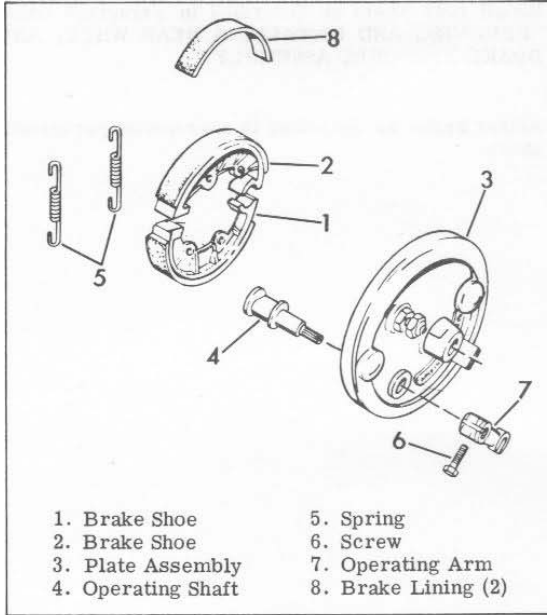
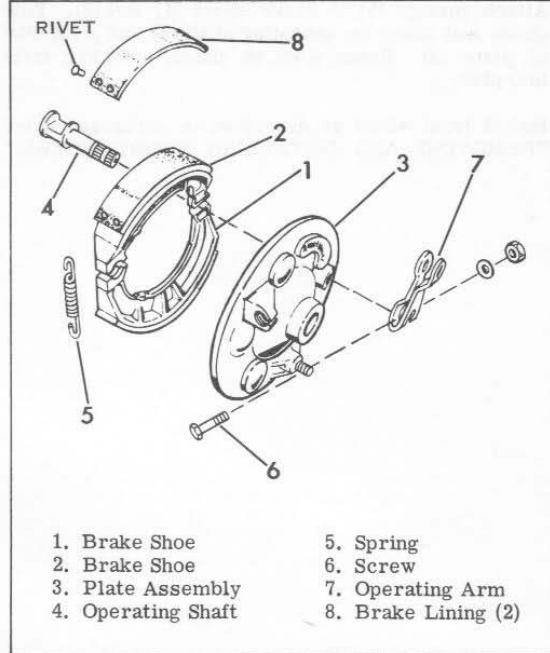
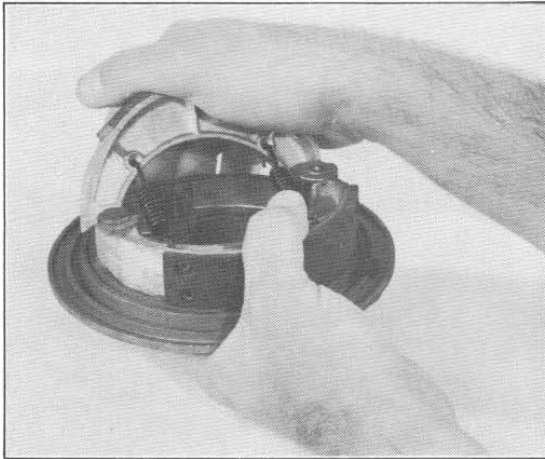

Figure 2.33. Disassembling Front Brake
Figure 2.34. Disassembling Rear Brake
Figure 2.33A. Disassembling and Installing Brake Shoes
Remove brake shoes (1) and (2), Figure 2.33, together by folding them up and away from plate assembly (3) as shown in Figure 2.33A. Pull brake shoe ends free of operating shaft (4) and pivot stud in side plate (3).
Remove brake shoes (1) and (2), Figure 2.34, together by folding them up and away from plate assembly (3) as shown in Figure 2.33A. Pull brake shoe ends free of operating shaft (4) and pivot stud in side plate.
Clean loose particles and dirt from brake shoes and hub braking surface. Clean and inspect brake shoe linings (8), Figures 2.33 and 2.34, for wear, glazing
In cases where linings need replacing, complete shoe assemblies consisting of items (1) and (2), Figures 2.33 & 2.34, (shoes with new linings attached) can be replaced. Note, also, that linings are sold separately, but must be bonded by local Brake Bonding Co.
The following procedure applies to both front and rear brakes and reference is made to figures 2.33 and 2.34.